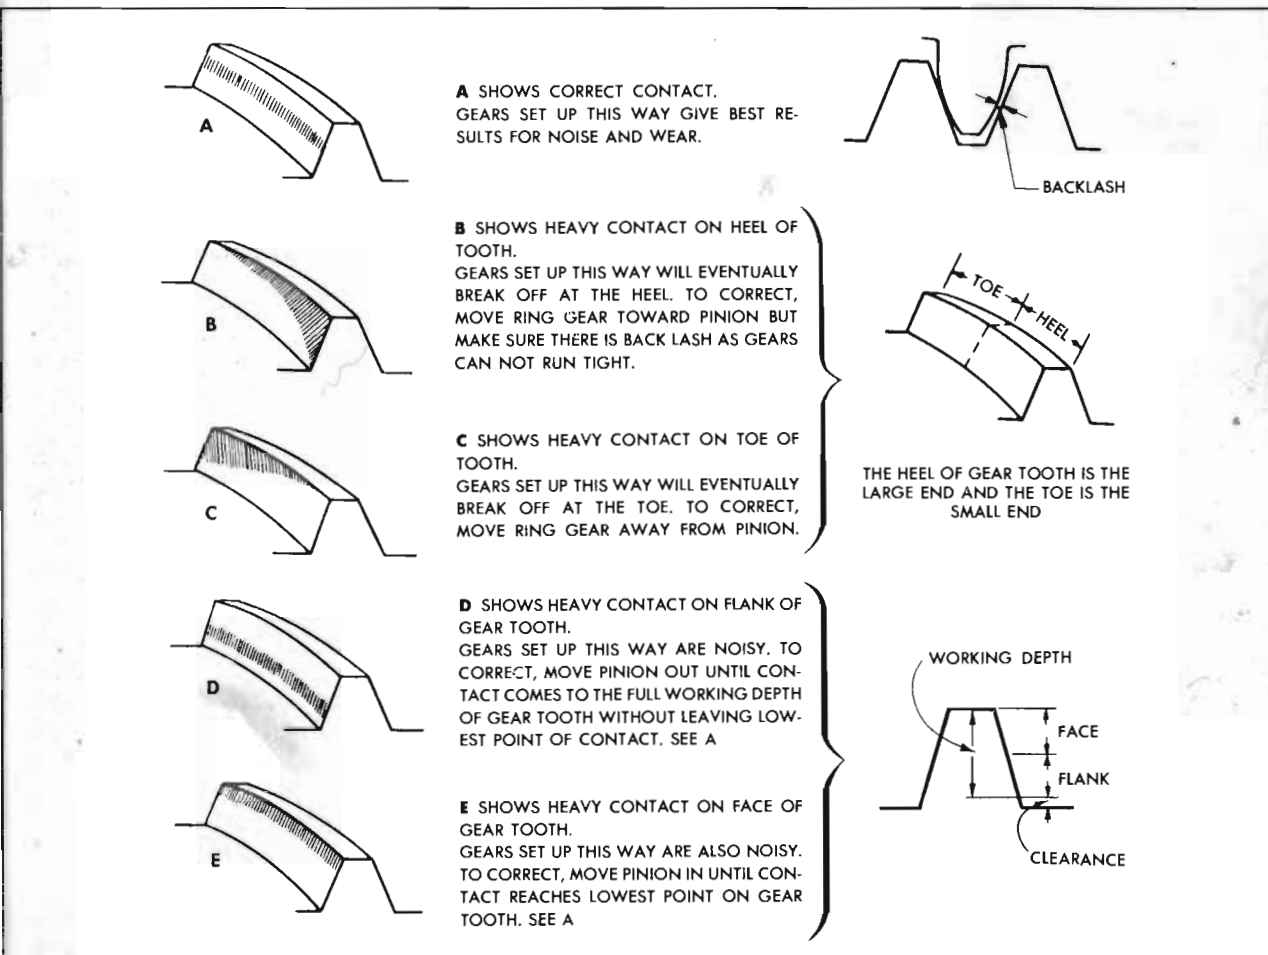

Figure 5-2—Gear Tooth Contact Corrections
5. Examine gear teeth for chips or scores and for proper gear tooth contact (par. 5-6 & fig. 5-2). Check ring gear lash with dial indicator (par. 5-23).
with marks shown in views A through E in figure 5-2. Marks should be as shown in view A. If marks are as shown in views B, C, D, or E, the gears are not correctly adjusted and may be noisy in operation.
5. Gears marked as shown in views B, C, D, or E should be adjusted as indicated opposite these views in figure 5-2. Adjustment will be satisfactory in most cases where gears are comparatively new and not improperly worn or scored. If gears have been run long enough to wear the teeth appreciably, however, it is unlikely that adjustment will produce quiet operation.
7. After making the adjustment indicated, re-paint ring gear teeth and run gears again as described in step 3, above. Final marking should be as shown in view A, figure 5-2. When proper tooth contact is obtained, wipe lead from gears and carrier with cloth moistened with clean gasoline or kerosene. Wipe out housing with clean cloths.